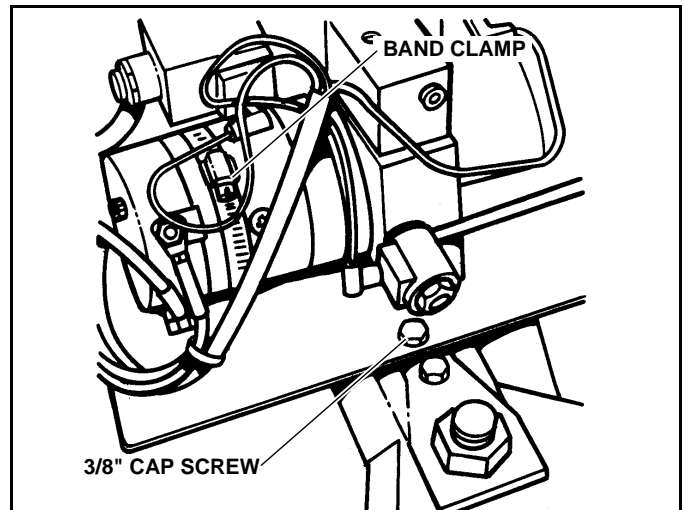

Figure 2-1
3. Remove the Cap Screw at the front of the pump platform. (See Figure 2-1)
5. Loosen Band Clamp. (See Figure 2-1)